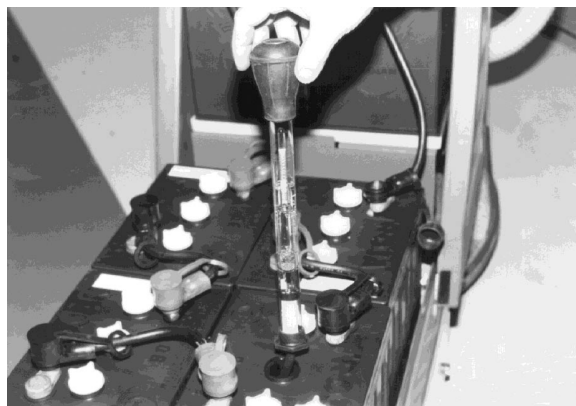

FIG. 22
2. Check the specific gravity in each battery cell with a hydrometer. All cells should show a reading of at least 1.260 (Figure 22).